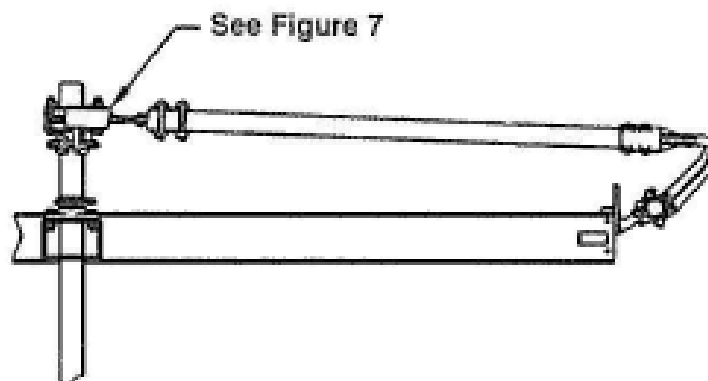
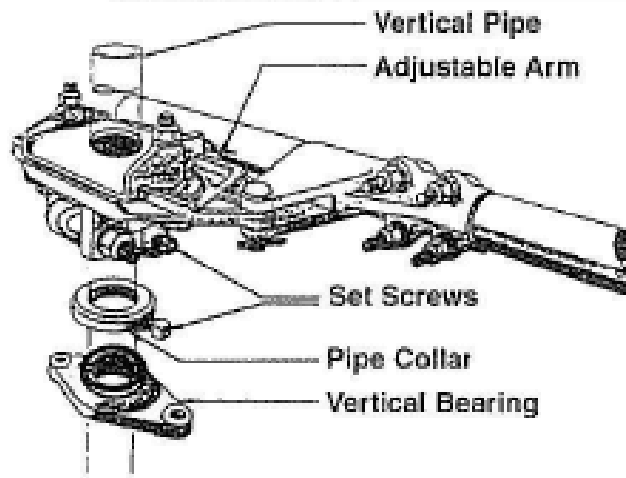

Figure 6: Typical Operating Pipe Arrangement
Figure 7: Exploded View – Adjustable Arm
2. Use the Op-Mech Drawing to install mounting brackets, bearings, bushings, pipe clevises, manual operating device, Adjustable Arm, and other components - **Figure 6** and **Figure 7**.